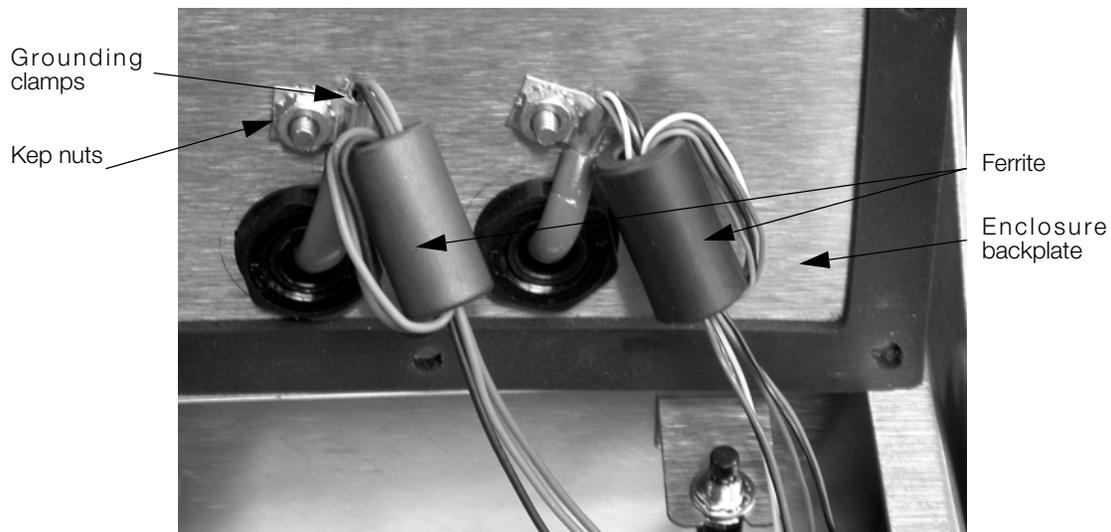

Figure 2. Loop Diagram of Ferrite
1. Strip cable insulation and shielding per cable grounding instructions. Ensure there are sufficient cable lengths to loop once around the ferrite, before reaching the cable connectors inside of the indicator (shown in Figure 2). Tighten grounding clamp nuts.
2. Loop wires once around the ferrite (see Figure 2). This should be done as close to the enclosure entry as possible. Finish installation using cable mounts and ties to secure cables inside of indicator enclosure.